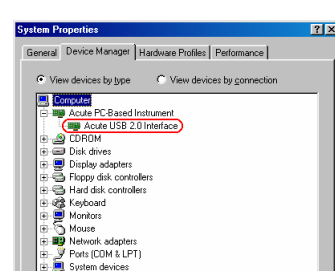

Figure 6
8. You may see “Acute USB 2.0 Interface” in Device Manager (Figure 6). It means that the DS-1000 USB interface is installed. If an exclamation or question mark appears on the “Acute USB 2.0 Interface”, that indicates the device is in a problem state. Please visit the FAQ page of our web site at <http://www.acute.com.tw> or email us at [service@acute.com.tw](mailto:service@acute.com.tw).